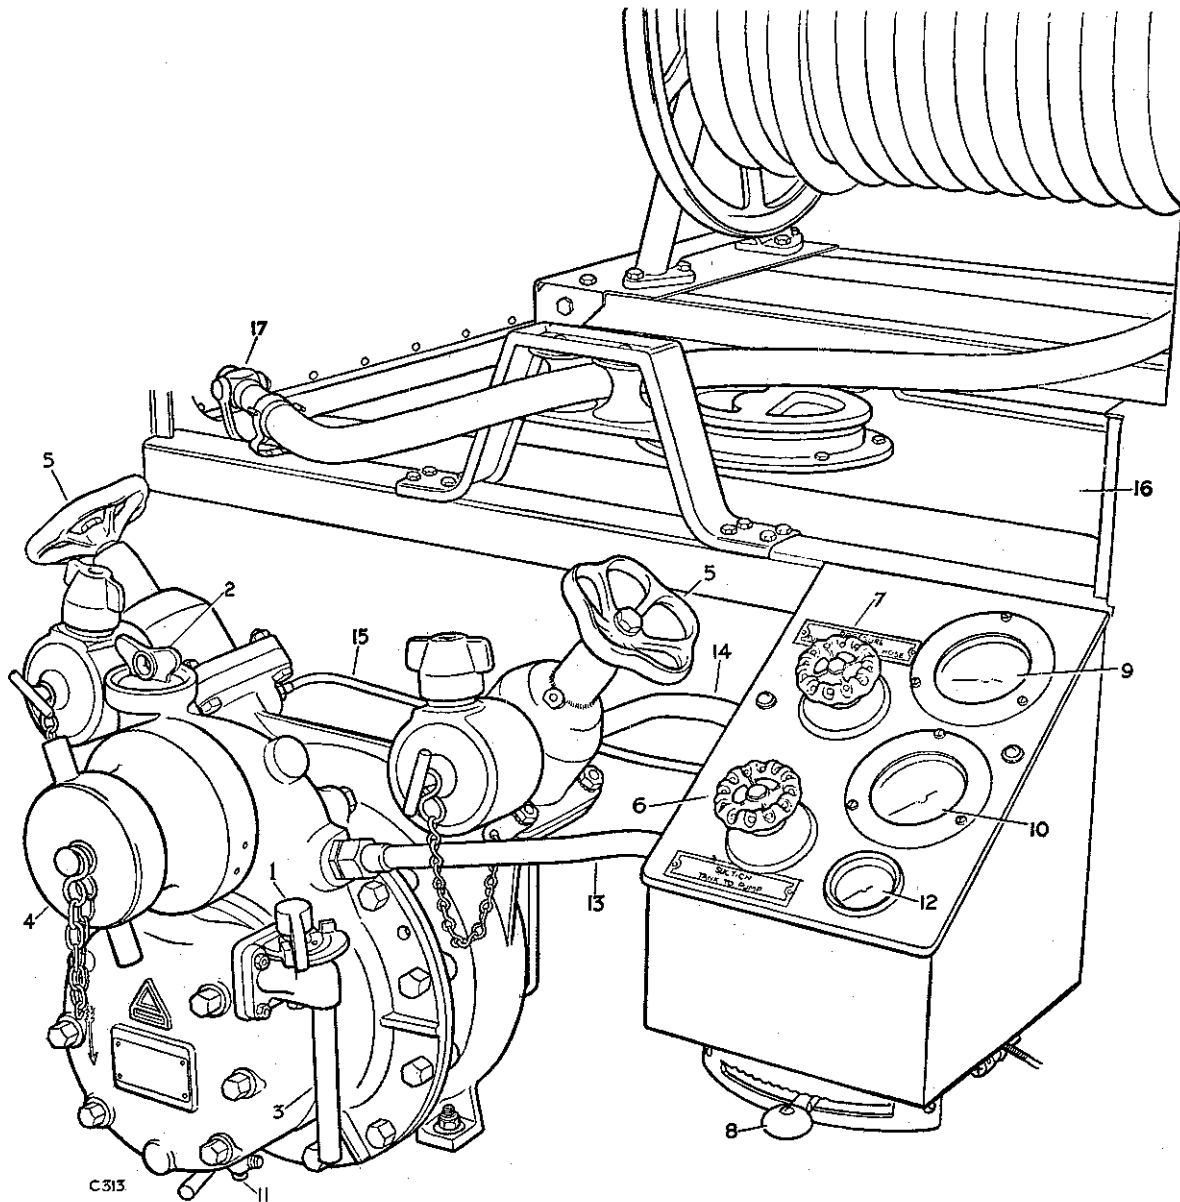

Fig T-42—Pump and controls
**To prime the pump (Fig. T-42) Operation T/68**
1. Select the "Priming" position with lever (1) and remove wing cap (2); pour water into the filler neck until it flows from the exhaust pipe (3), then replace the wing cap. See Fig. T-42.
**To engage the pump drive (Fig. T-42)**
1. Start the engine with the transfer gear lever in neutral position; depress the clutch, select top gear with main gear lever and move the "power take-off" selector (early models, beneath centre seat box; late models, knob on heelboard) forward, then release the clutch pedal. Control engine r.p.m. by means of the governor control lever (8).
**To pump from first-aid tank (Fig. T-42)**
2. Open first-aid suction control valve (6) and pressure control valve (7) and select "Working" position with lever (1).
**To fill first-aid tank from a hydrant (Fig. T-42)****Operation T/74**
2. Open first-aid suction control valve (6) and ensure that delivery valves are closed.
**To pump from a static water supply (Fig. T-42)****Operation T/76**
4. With lever (1) at "Priming" start the engine and engage the drive.
5. Move the governor control quadrant to the fully open position. The vacuum gauge (9) should indicate an increasing depression, and when water flows from exhaust pipe (3), the delivery valves must be slowly opened. When the pressure gauge (10) indicates rising pressure, move the lever (1) into "Working" position.
**To pump from a hydrant or gravity feed supply (Fig. T-42)****Operation T/78**
2. Select "Working" position with lever (1).
**To temporarily stop output (Fig. T-42)****Operation T/80**
**Precautions to be taken when pumping****(Fig. T-42)****Operation T/84**